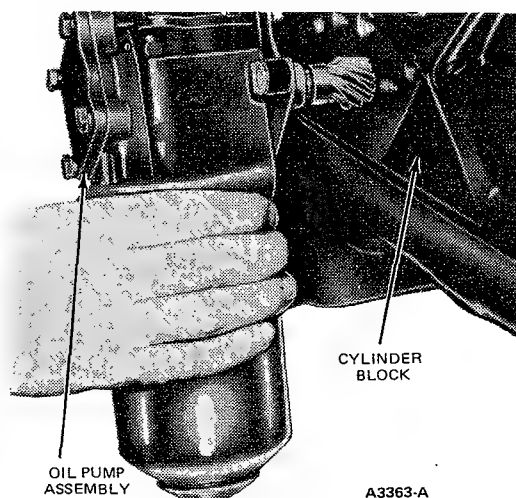

FIG. 39 Removing Oil Pump
2. Remove the three bolts attaching the oil pump and filter assembly and withdraw the assembly (Figure 39).